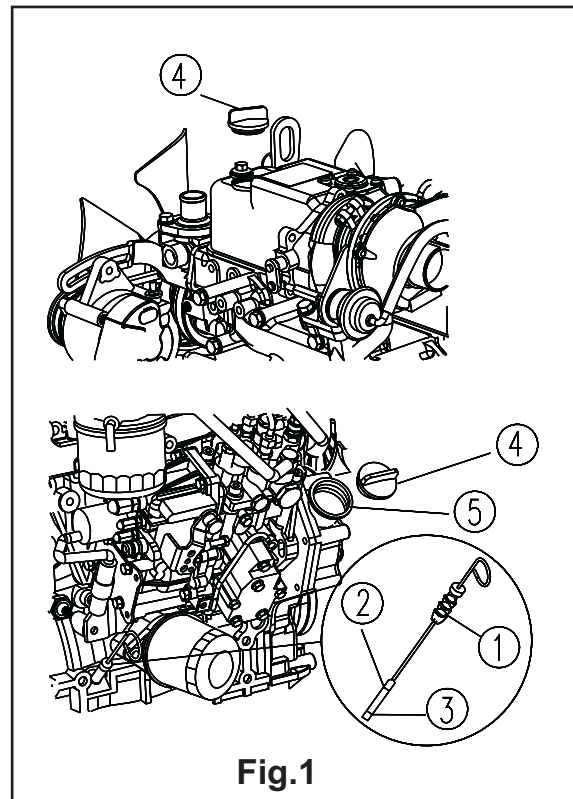

Fig.1
2) Take out the oil gauge (①in fig.1),and wiped by a clean fabric.
4) Take out the oil gauge again and check the oil level. The level of the oil should lie in the value between the highest (H) and the lowest (L).
- 8)Fill the oil from the oil filler (④in fig. 1) as the regulated quantity.
- 11)Install the oil cover (④in fig. 1).
- 8)Fill the engine oil (⑤in fig. 1) until the oil level arrived at the value between the highest (H) and the lowest (L) on the oil gauge (①in fig. 3)
- 9)Install the filter cover (④in fig.1), if there are oil flow out, please clean immediately.